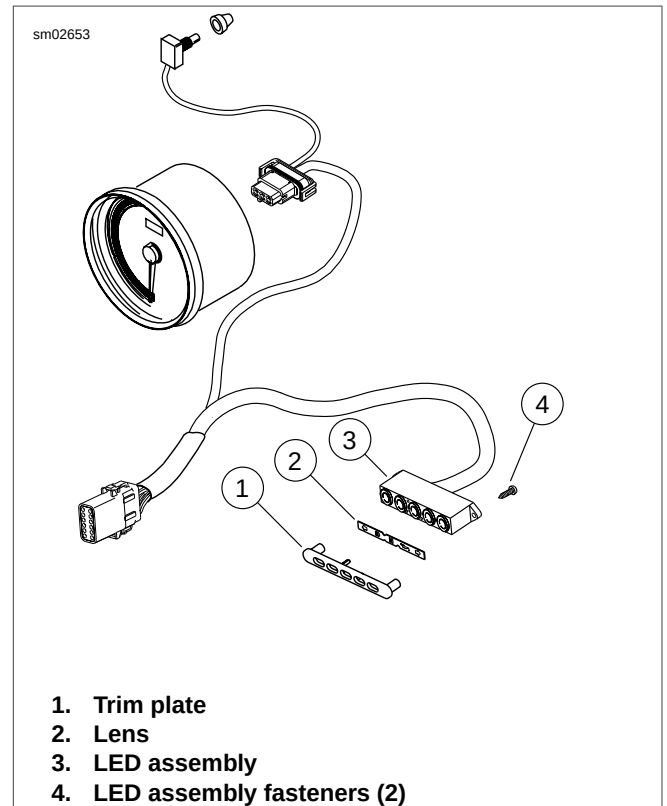

Figure 7-64. Indicator Lamps: FXD
- See Figure 7-64. Remove LED assembly fasteners (4) from LED assembly (3).
1. See Figure 7-64. Install LED assembly (3) into speedometer bracket.
2. Install LED assembly fasteners (4) into LED assembly. Tighten fasteners (1) to 18-24 **in-lbs** (2.0-2.7 Nm).